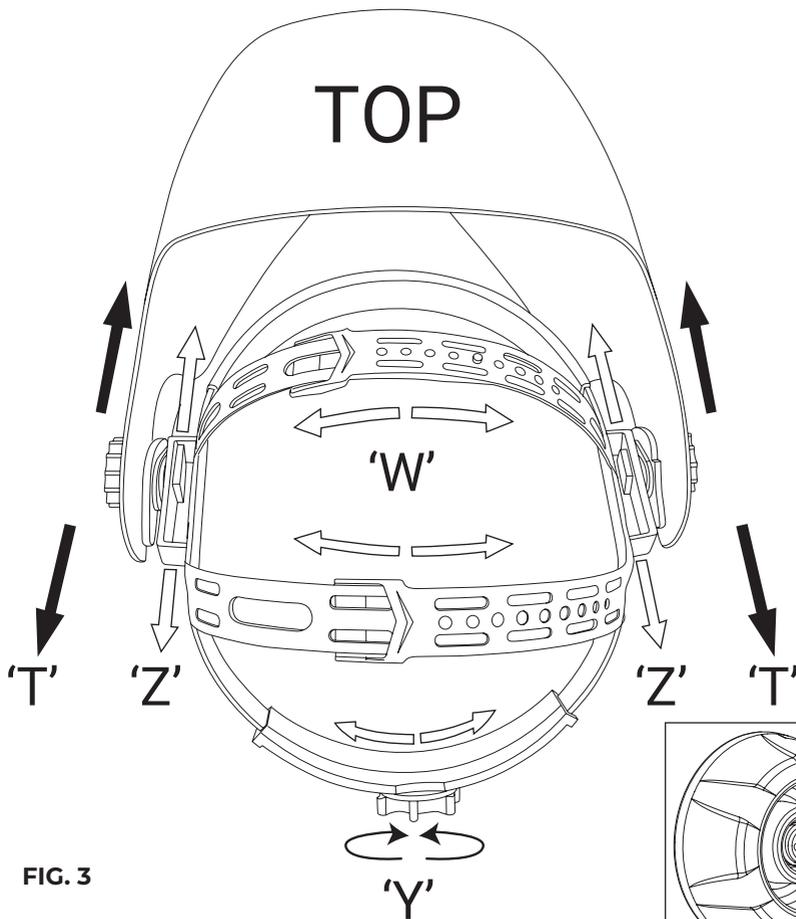

FIG. 3
- The circumference of the headband can be adjusted by turning the knob at the back of the headband (see adjustment "Y" in Fig. 3).
- To do this, release the end of the band by pushing the locking pin out of the hole in the band. Slide the two sections of the band to a larger or smaller width as needed and push the locking pin through the nearest hole (see adjustment “W” in Fig. 3).
- Step 1: Loosen the locking nut (see “T” in FIG. 3) to adjust the distance between the helmet and your face in the downward position.
- Step 2: Loosen the locking nut on both sides of the helmet and slide the helmet closer to or further from your face (see adjustment “Z” in FIG. 3). It is important that your eyes are equidistant from the lens to ensure even shading.